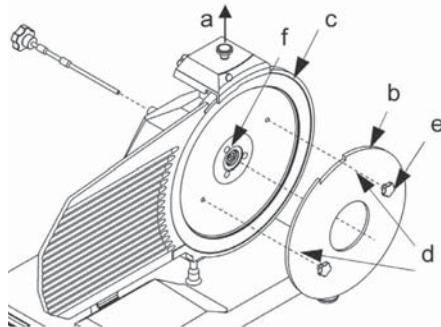

Fig. 7 – Assembling the Plexiglas blade removal tool (b)
To clean the opposite surface of the blade it is necessary to remove the blade (see Fig. 7).
- disassemble the blade guard (see Fig. 7);